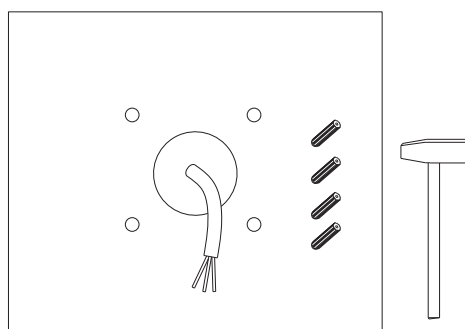

Figure 1-2
- 2.Fix rubber plugs into holes.(Figure 1-2)